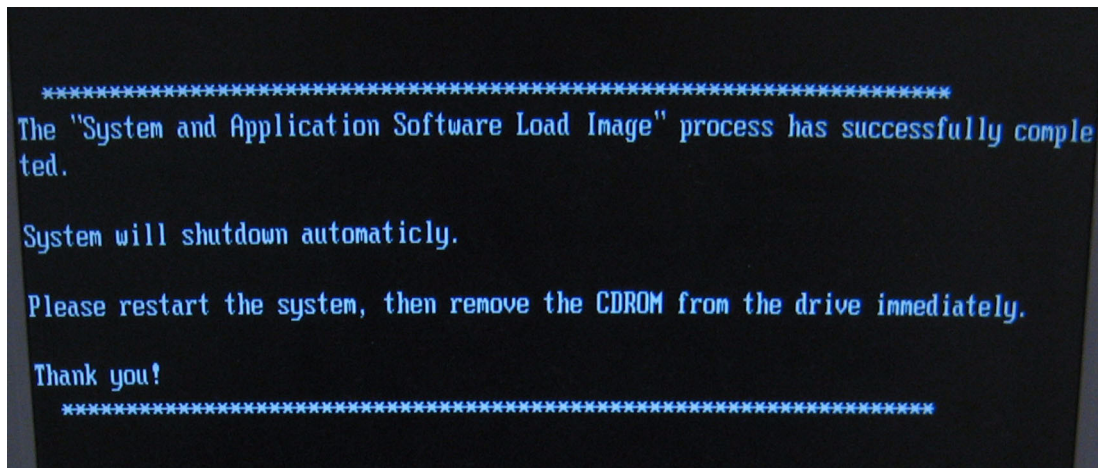

Figure 8-6 System upgrade complete
9.) System updating finished, refer to Figure 8-6 on page 8-5.